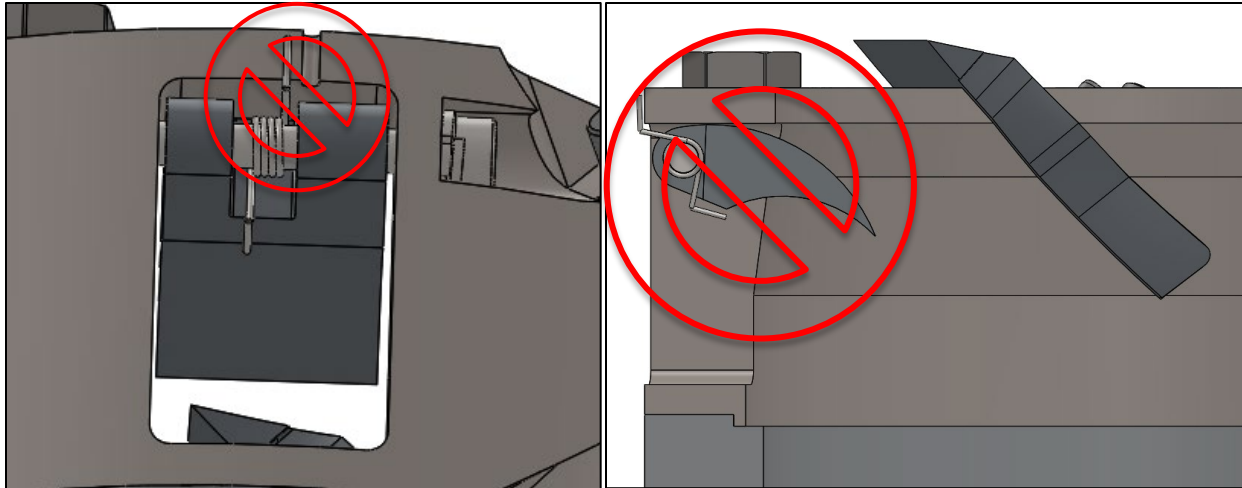

Figure 10: Incorrect Core Dog Installation
7.3.2.5 Bend both ends of the core dog spring back against the core dog and cutter head, respectively (Figure 10).
7.3.2.6 Using the side cutting wire cutters, snip off the long ends of the core dog spring (Figure 10).